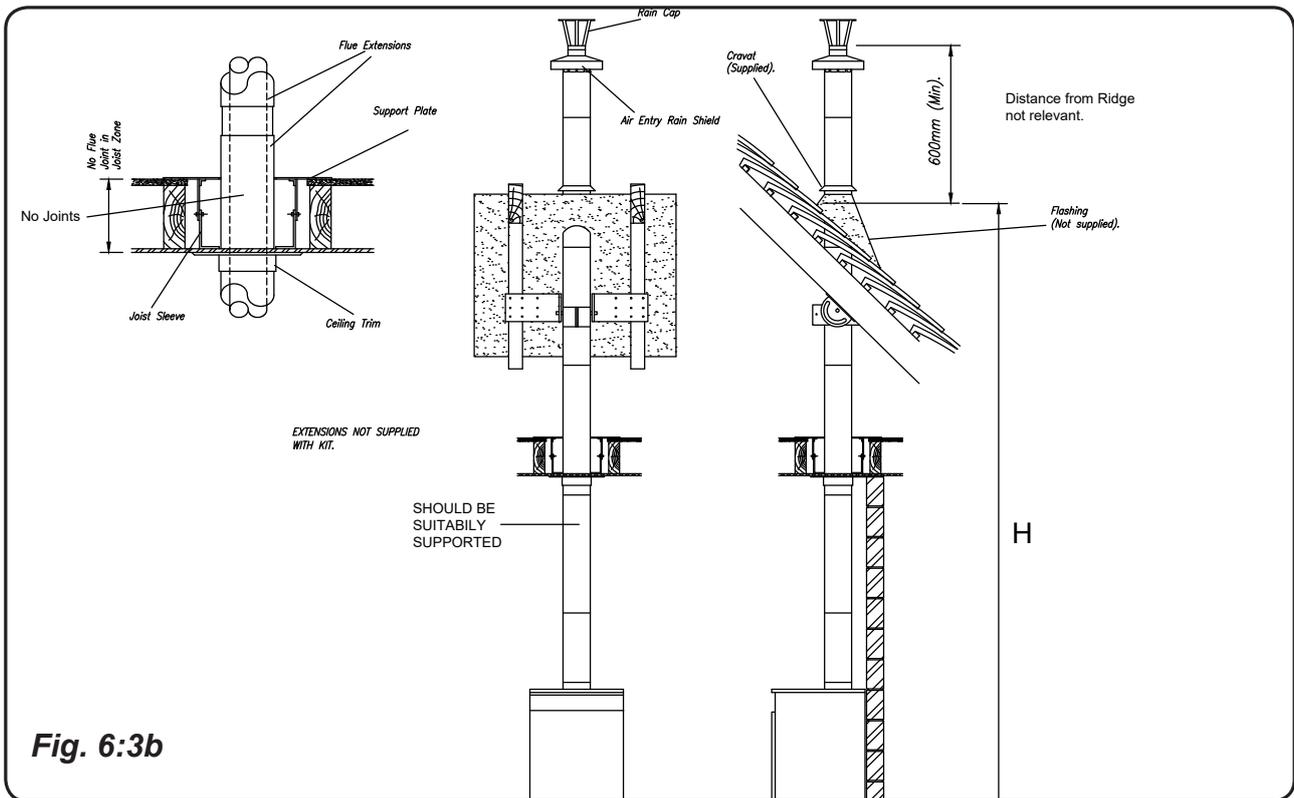

Fig. 6:3b
- Take the next section and ensure that the correct seals are fitted and undamaged and lubricated. **See Fig. 6:2c.** Then slide the sections together, internal sealing ring end first.
- Build up to the required height to reach the Roof Terminal and complete as shown in **Figs. 6:3a and b**
- a. Using the parts from the Kit, slide the Short Flue Spigot through the Stainless Steel Ring and caulk it into the Heater Flue Ring with the rope and cement provided. **See Fig 6:4b**
- b. Slide the square Stainless Steel Plate over the Flue Spigot sealing with silicone around its underside edge. **See Fig 6:4c**